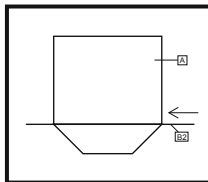

FIG3
5. Push the pole<B2> completely into the channel on the awning of outer tent<A>.(FIG3)